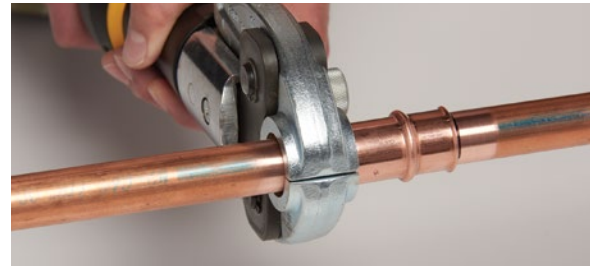

Figure 20
14. Press and hold the trigger on the tool to begin the pressing process. Continue to hold the trigger until the tool completes its cycle (Figure 20). The jaws will not open until the cycle is completed without manual override. Repeat the process for the remaining fitting ends where appropriate.